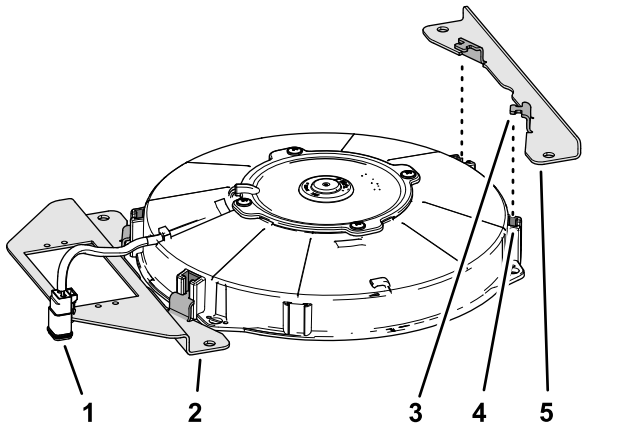

Figure 3
1. Locate the 2 slots in the cooling-fan housing closest to the fan harness with the 2-socket connector (Figure 3).
2. Insert the 2 mounting tabs of the long fan-mount bracket into the slots in the fan housing (Figure 3) that you identified in step 1.
3. Insert the 2 mounting tabs of the short fan-mount bracket into the other 2 slots in the cooling-fan housing (Figure 3).